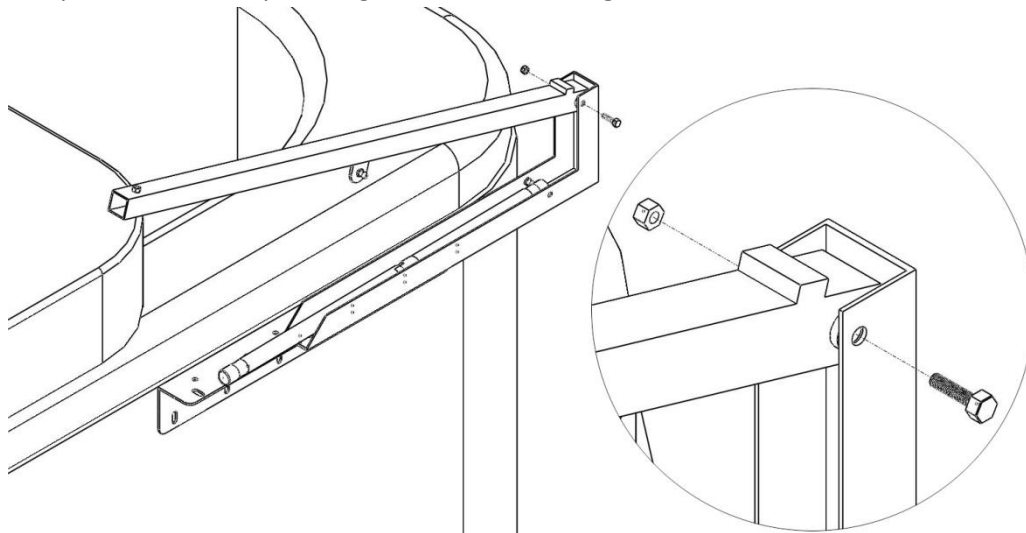

Figure 11
11. Attach the Pivot Arms (cvCC) to the Channel Brackets (cvBB) using the Long Hex Bolts (cvC) and Lock Nuts (cvF). Ensure the Lock Nuts (cvF) are on the outside of the Channel Brackets (cvBB) and the Pivot Arms (cvCC) move up and down easily. See Fig 11. **Do Not Over Tighten the Bolts.**